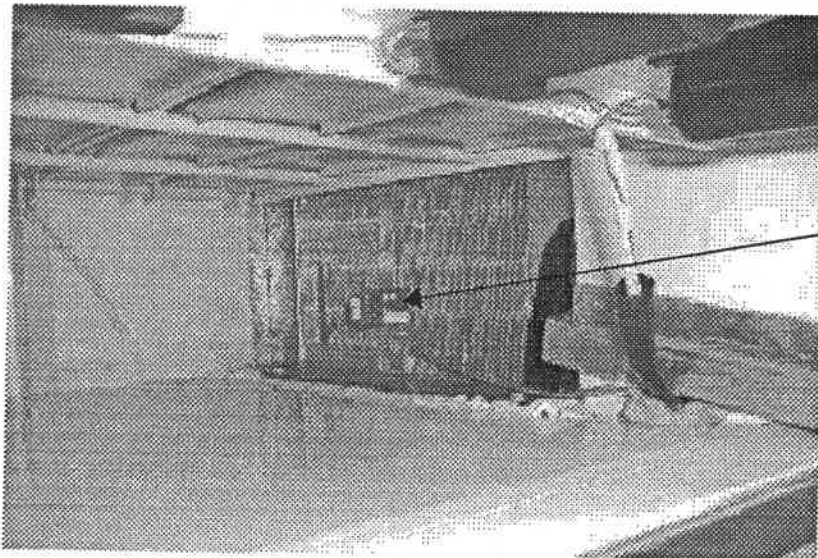

Figure 2
10. Install the sensor in the evaporator above the temperature control bulb. See figure 2 on page 3.